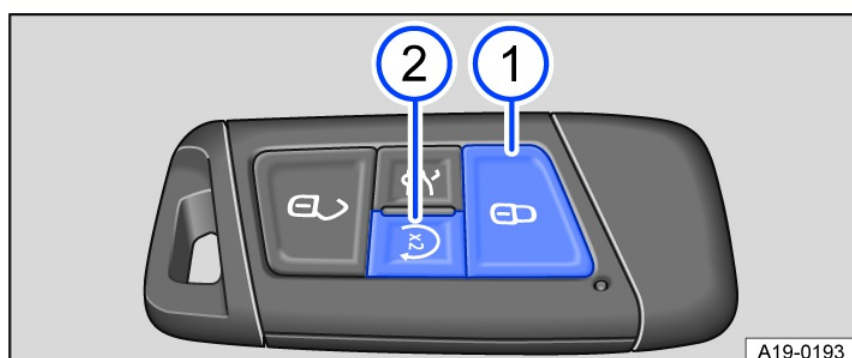

Fig. 109 Vehicle key with remote start relay function.
1. Press the button  *fig. 109* ① once. All turn signals will flash.
2. Press the button  *fig. 109* ② twice in a row. All turn signals will flash. During remote start, the parking light turns on.
1. Press the  button *fig. 109* ② in the vehicle key to switch off the engine.